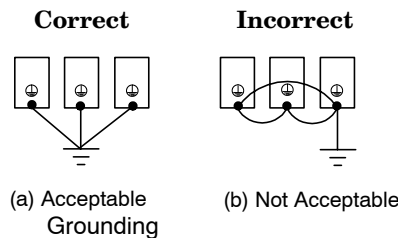
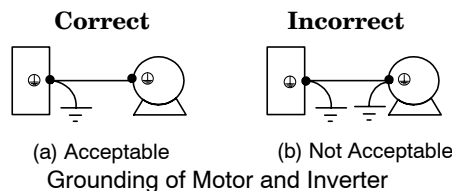

Fig 3.16
Fig 3.17
- Ground each Converter and Inverter directly to the ground as shown in figure 3.16 (a). Do not make a loop as shown in (b). Ground the Inverter and motor as shown in figure 3.17 (a). Do not ground both the Inverter and motor as shown in (b).